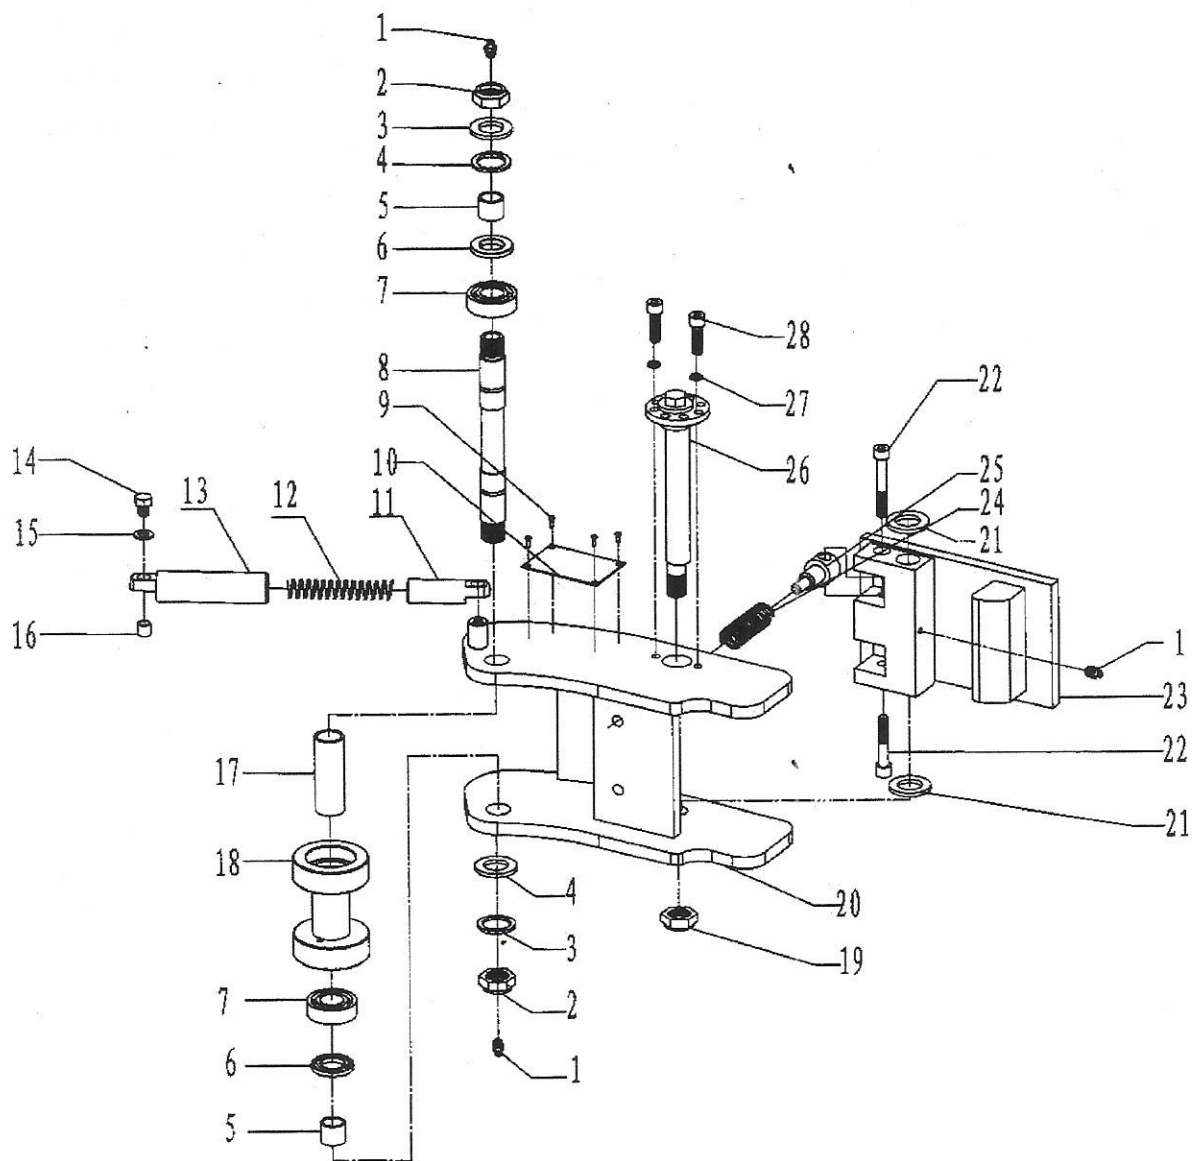

Fig. 10
7. Assembly of safety door (Fig10, Table 7)